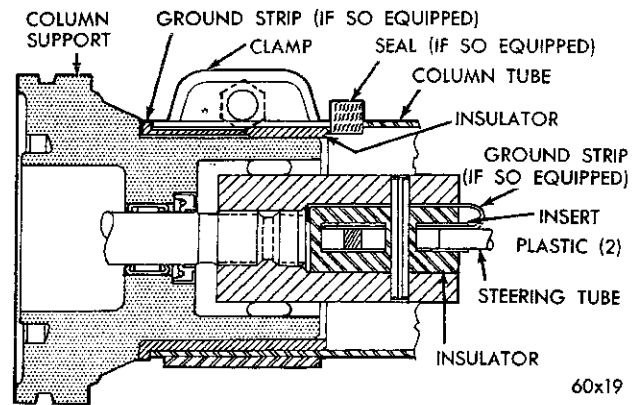

Fig. 47—Jacket Tube Installation
(4) On Chrysler and Imperial Models assemble the horn ground strap (copper) to the jacket tube support rubber insulator boot and install this assembly into the lower end of the jacket tube (Fig. 47).
(5) Lubricate (powder lubricant) the end of the steering gear column jacket support and insulator boot to facilitate insulation and slide the jacket tube and insulator boot assembly down against the shoulder on the jacket tube support. Tighten the clamp bolts securely.